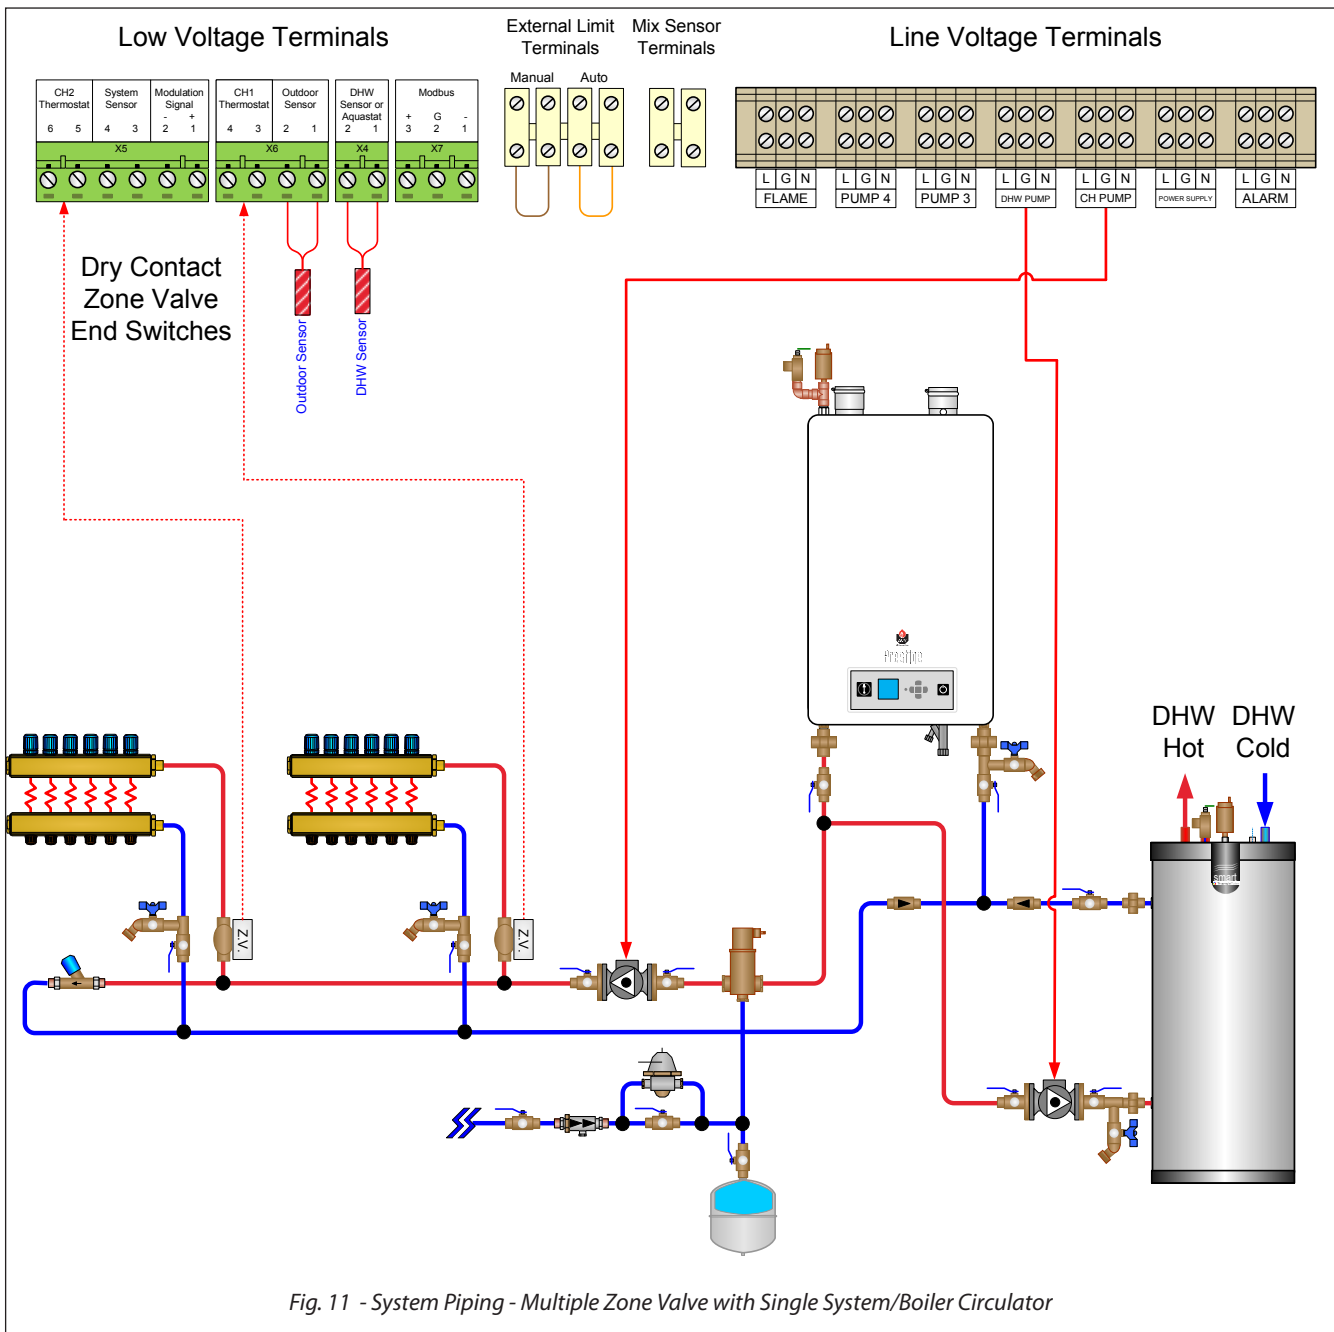

Fig. 11 - System Piping - Multiple Zone Valve with Single System/Boiler Circulator
*Fig. 11 on page 20* illustrates a multiple zone valve system with a single system/boiler circulator. A by-pass loop with a pressure differential valve must be installed on the system piping.